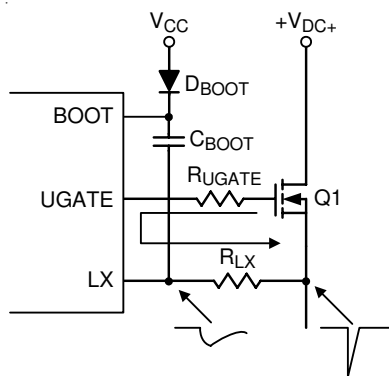

Figure 5. LX Pin Resister
- ▶ In Figure 5, the LX pin voltage drop can be improved by adding R_{LX} ($R_{LX} = 1$ to 10Ω), because the dv/dt is affected by $(R_{LX} + R_{UGATE})$.